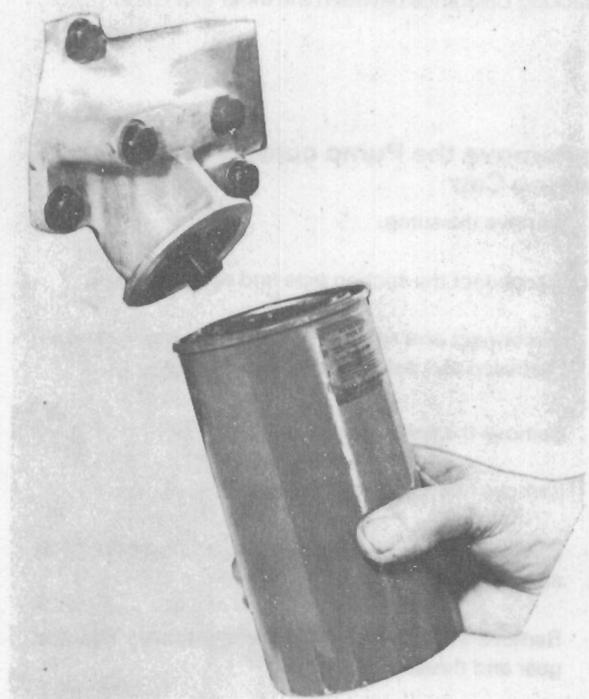

Fig. L.5.
1. Unscrew and discard old oil canister (see Fig. L.5).